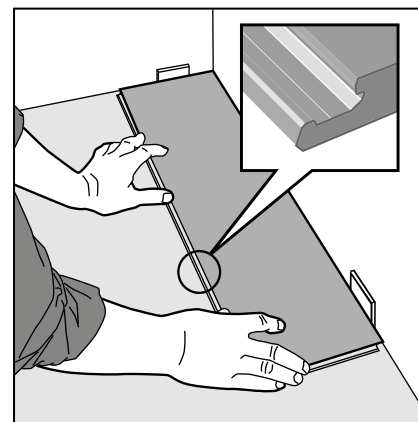

Figure 11 First plank, first row
- ▶ The tiles and planks (panels) are laid without glue. Start to lay the floor in the left-hand corner of the room with the lower male profile facing towards you (Fig 11).